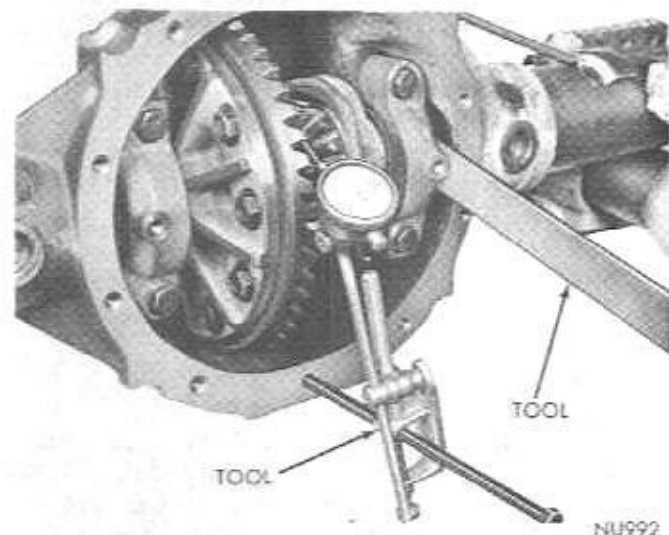

Fig. 26—Measuring and Adjusting Backlash between Drive Gear and Pinion
(4) Install dial indicator and position the contact point against back face of ring gear tooth. Check backlash at 4 positions at approximately 90 degree intervals around the circumference of the gear (Fig. 26).
(5) Rotate gear to position where least backlash exists. Turn both adjusters the same amount, and in the same direction, until gear backlash is .001" to .002".
(6) Turn right bearing adjuster (tooth side of drive